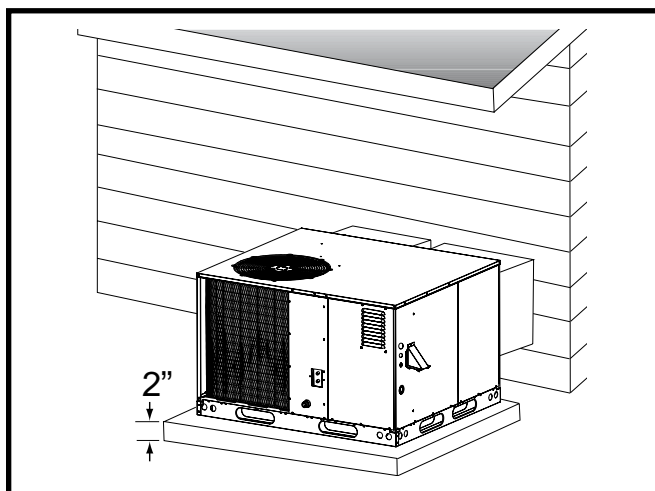

Figure 4. Ground Level Installation
- A suitable mounting pad must be provided and be separate from the building foundation. The pad must be level to ensure proper condensate disposal and strong enough to support the unit's weight. The slab height must be a minimum of 2" (5cm) above grade and with adequate drainage. See Figure 4 (page 10).